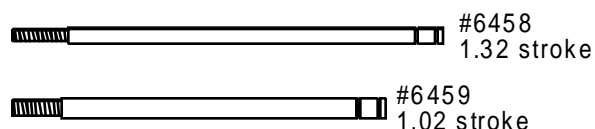

Fig. 111
□ **Fig. 111** In the kit bag you will find the new master shock bag which contains bags #7-9, #7-10, the shock piston bag, and the shock assembly parts bag. We have found it easier to assemble all four shocks at the same time. (1) Open bag #7-9 and remove the two #6458 rear shock shafts. (2) Now open bag #7-10 and remove the two #6459 front shock shafts. (3) Next open the shock assembly parts bag. Inside you will find the small roll of #6299 1/8" E-clips (remember you will still be looking for the white tape not the E-clips). Install one E-clip on each shock shaft in the lower groove (closest to the threaded end as shown in fig. 111). If you have run out of E-clips you should have extras in bags #7-1 or #7-8.